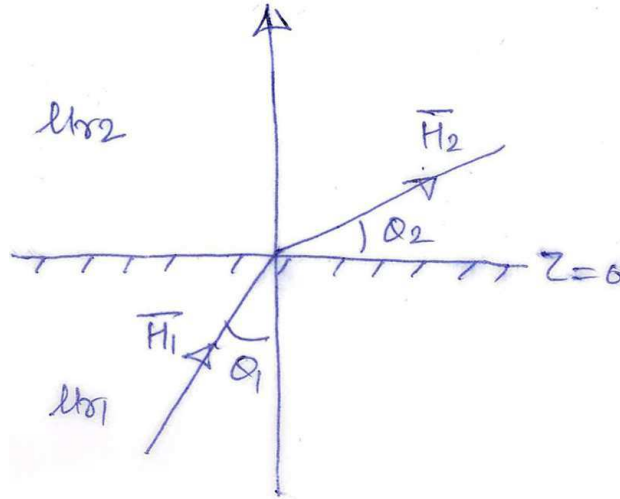

Fig. 2
8. (a) For θ_1 and θ_2 shown in Fig. 2, prove that : [8]